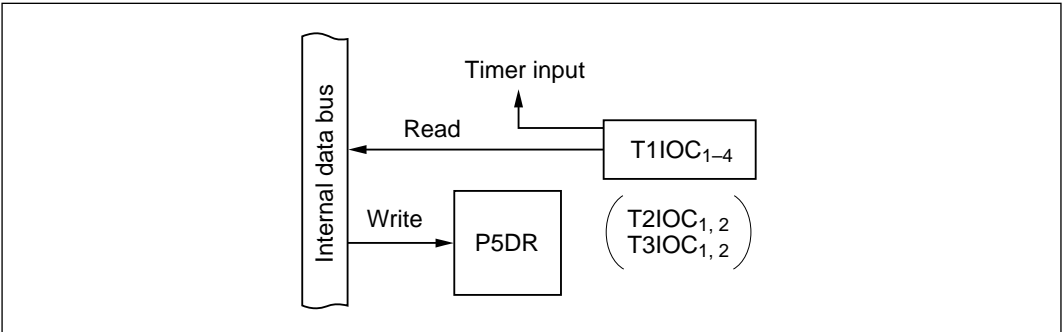

Figure 10-33 Input Capture Combined with General-Purpose Input (Modes 1 to 7)
(5) Timer Input Combined with General-Purpose Input (Modes 1 to 7): Figure 10-33 shows a block diagram illustrating the input capture function when combined with general-purpose input. Table 10-26 indicates register read/write data. An input capture pin can also be read as an input port, to monitor the timer input level at T1IOC₁ to T1IOC₄, T2IOC₁, T2IOC₂, T3IOC₁, or T3IOC₂.